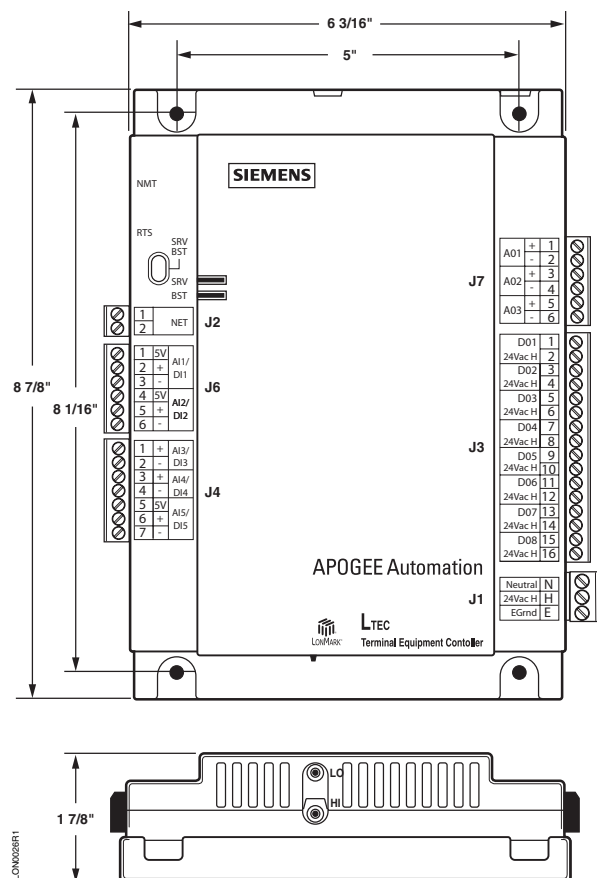

Figure 2. LTEC Controller.
8. Plug the room temperature sensor (RTS) cable into the 'RTS' port on the left side of the controller. See Figure 2.